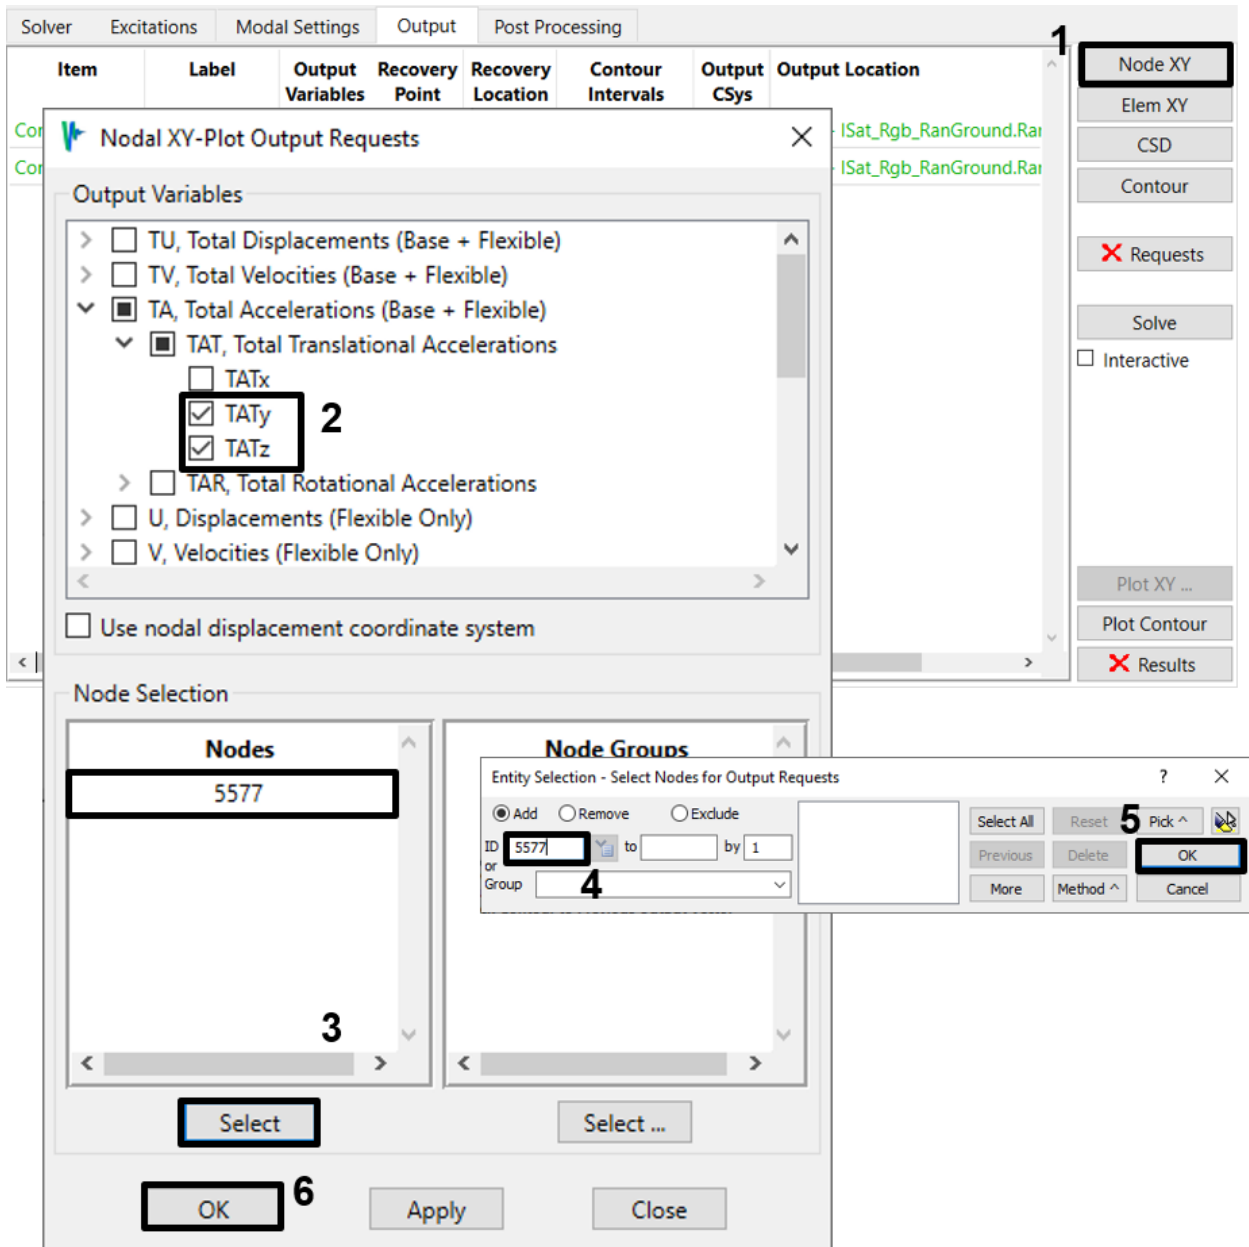

Figure 4-49. Request Y- and Z-direction total accelerations for node 5577.
- The highest RMS acceleration occurs at node 5577 for Y-acceleration. That node also shares the highest Z-acceleration, although it is lower than the Y-direction. You would like to know the frequencies at which the largest responses occur, so create a Node XY output request for that node and those directions (Figure 4-49). (You can request X-acceleration if you wish, but it will clutter the plotting displays.) Solve this new request and plot the Y-acceleration function (Figure 4-50). Set the display units to "IN (G's)" to see the responses in  $g^2/Hz$  rather than  $(in/s^2)^2/Hz$ .